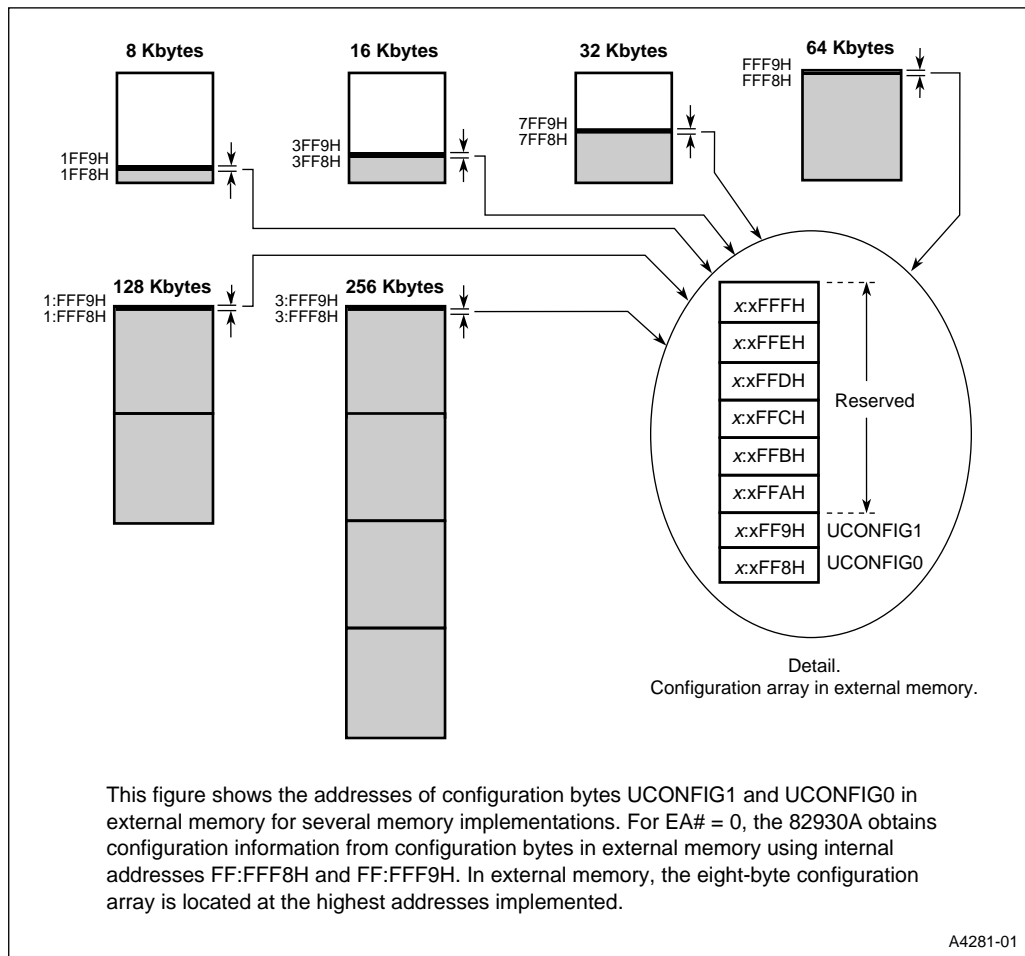

Figure 4-1. Configuration Array (External)
1. When EA# = 0, the reset routine retrieves UCONFIG0 and UCONFIG1 from external memory using the internal addresses FF:FFF8H and FF:FFF9H which appear on the external address bus (A17, A16, A15:0) as shown in this table. See Figure 4-1.
2. Address. UCONFIG0 is the lowest byte of the 8-byte configuration array. When EA# = 0, the 82930A obtains configuration information from a configuration array located at the highest addresses implemented in external application memory using addresses FF:FFF8H–FF:FFF9H. The physical location of the configuration array in external memory depends on the size and decode arrangement of the external memory system (see Table 4-1 and Figure 4-1).